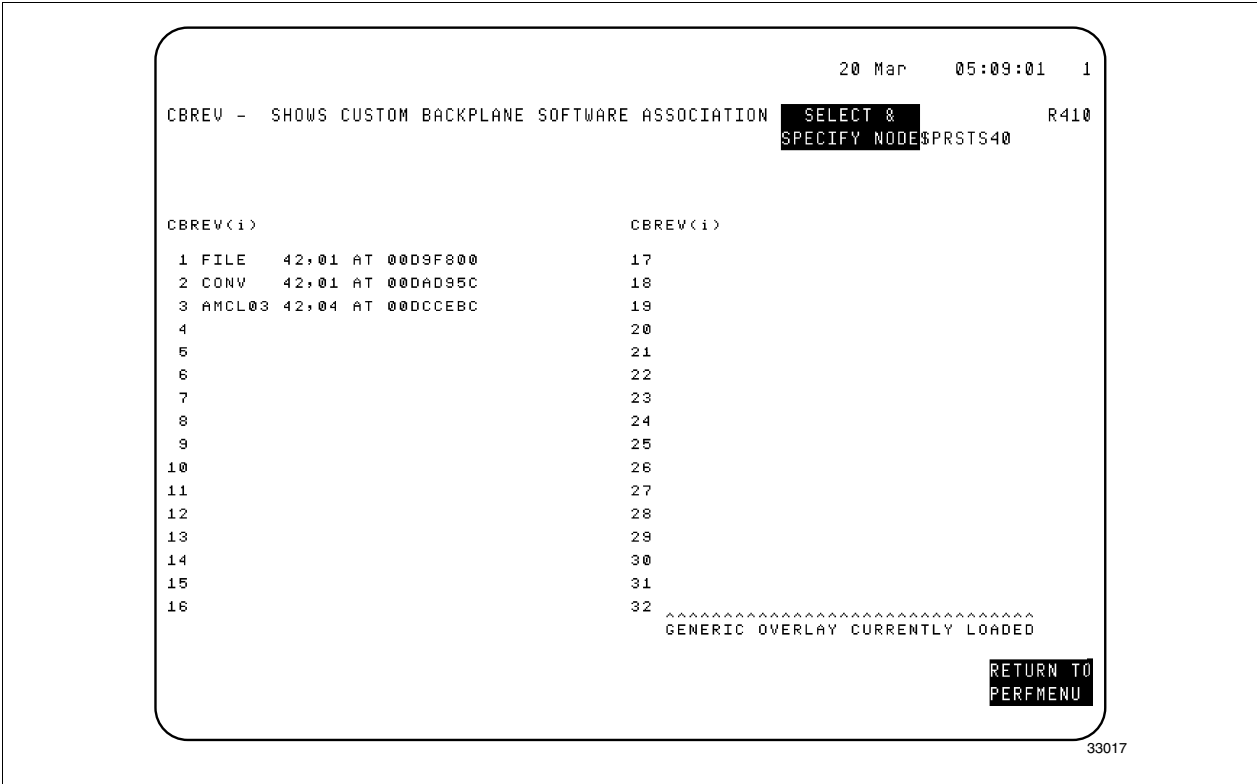

Figure 3 - CBREV Display
- the DATACHNG display on PERFMENU (see Figure 3), or